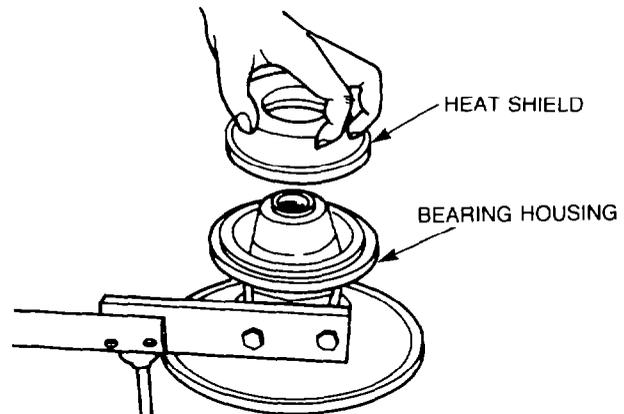

Figure 142 — Heat Shield — Removal
- j. Remove the oil baffle, thrust bearing and the thrust collar (items 20, 19 and 18) from the bearing housing (item 14).
- k. Using a suitable pair of circlip pliers, remove the retaining ring (item 17) securing the bearing (item 16) into the bearing housing (item 14), and remove the bearing. Remove the inner retaining ring (item 15), then rotate the bearing housing so that the turbine end is uppermost as shown in Fig. 142. Remove the retaining ring (see Fig. 139, item 4) securing the heat shield (item 5) to the bearing housing (item 14), then remove the heat shield.